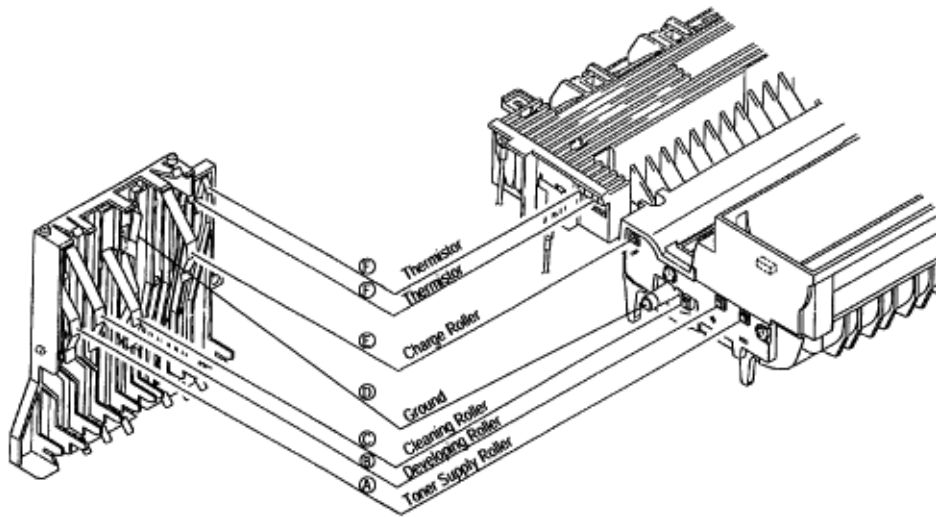

Figure 6-5
- ▼ Yes Is the contact of the image drum cartridge contacted with the ground contact properly. (See Figure 6-5 ①.)
- Is the contact plate of the transfer roller contacted with the power/sensor board properly? (See Figure 6-5.)
- ▼ No Are the contacts of the toner supply roller, developing roller, image drum and charging roller contacted with the contact assy properly? (See Figure 6-5 (A), (B), (C), (D), (E).)
(See Figure 6-5 (G).)